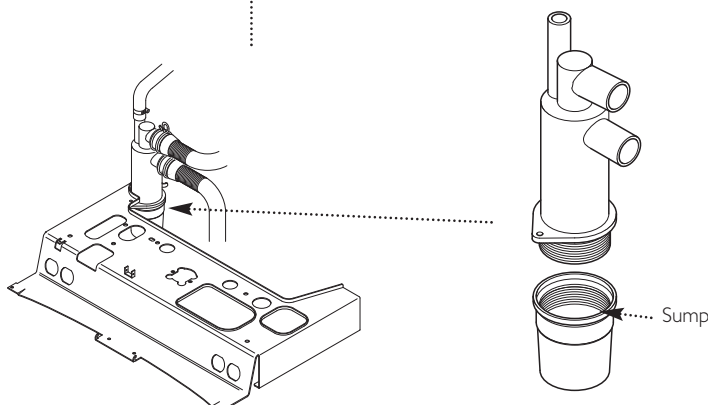

Fig. 54
5. Unscrew the sump from the bottom of the condensate trap assembly (Fig. 54) and remove any deposits from the sump and trap. Clean as necessary and replace the sump.